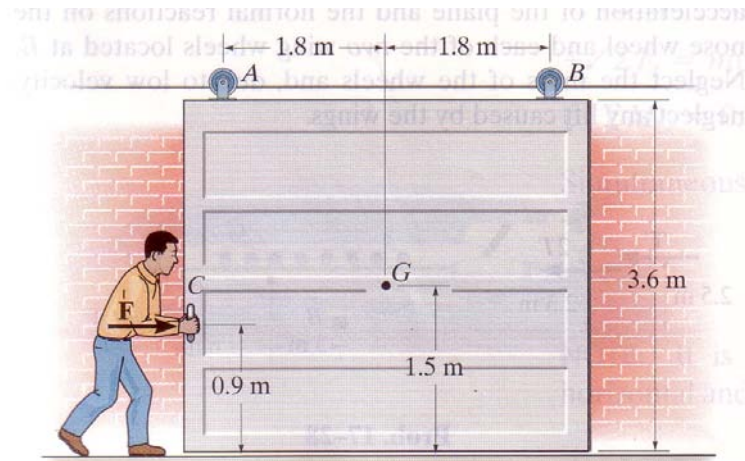

Figure Q3[a]
- Q3 [a]** The sliding door has a weight of 1 kN and a center of gravity at G as shown in Figure Q3[a]. Determine the constant force F that must be applied to the door to push it open 3.6 m to the right in 5 s, starting from rest. Also, find the vertical reactions at the rollers A and B.